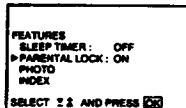

Fig. 20
- 5 Select "ON" with  $\Delta$  or  $\nabla$  and press OK. (See Fig. 20.)